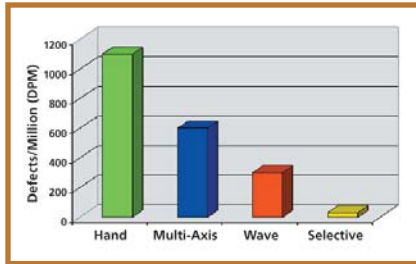

FIGURE 2: Selective soldering ovens can reduce DPM ...
- Consistent LF solder joint quality and significant reduction of DPM (**Figure 2**).